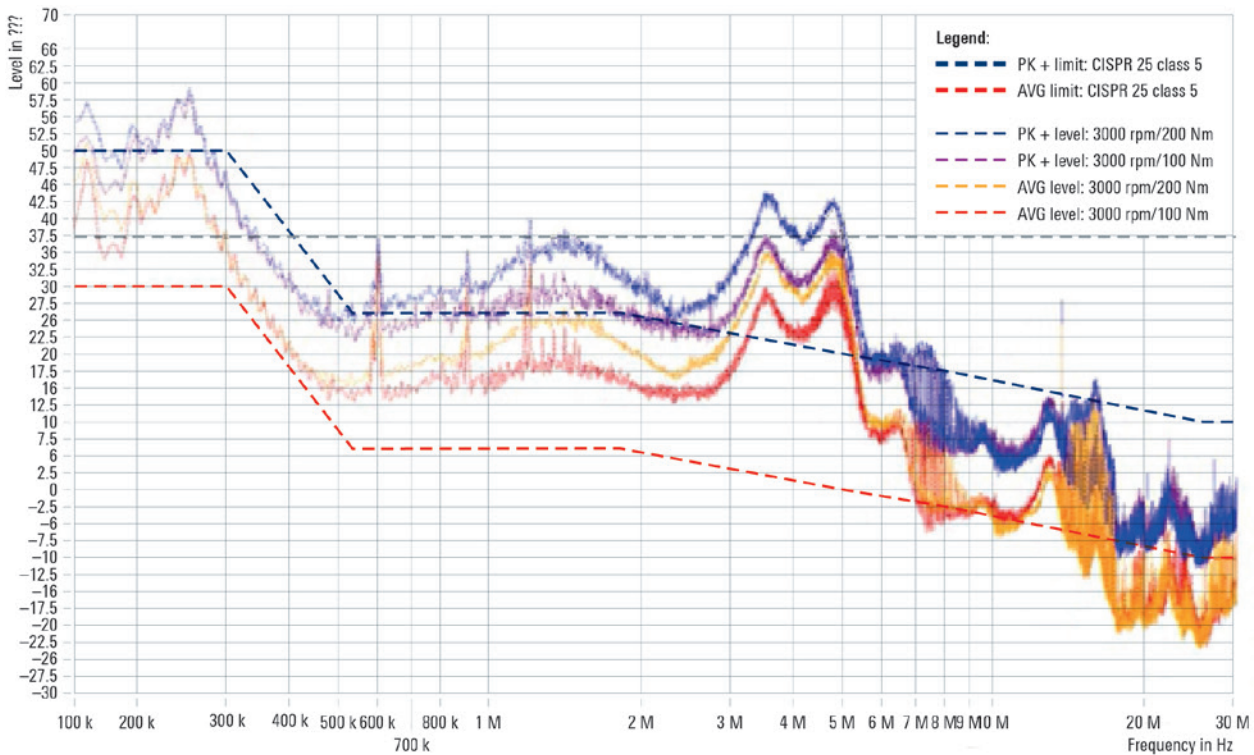

Figure 5: EMC measurements on HV line with current probe at 100 Nm and 200 Nm torque levels with CISPR peak (PK+) and CISPR average (AVG) detectors
Figure 5 shows the load change effect on the high voltage (HV) line. There are higher broadband interference emissions when the car is accelerated or decelerated that go well above the limit of the CISPR25 Class 5 standard.